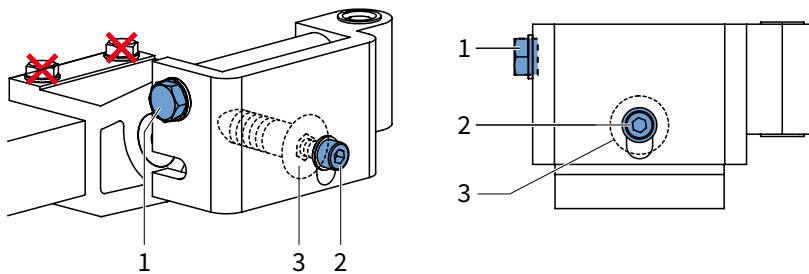

fig. 5.2 Detail left arm-connection
2. Loosen nut #1 with one stroke (wrench 17). Lift the front bar during the twisting, this way the set bolt moves easily. See figure 5.2.